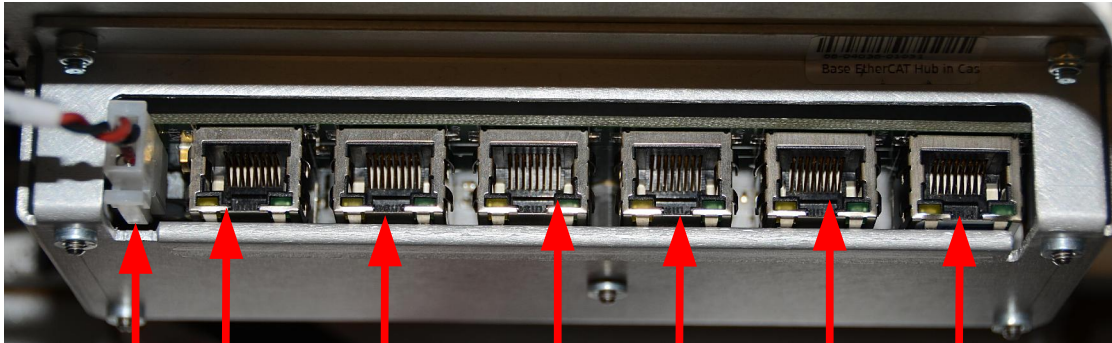

Fig. 10
10. Plug in all cables into the hub (Fig. 10)